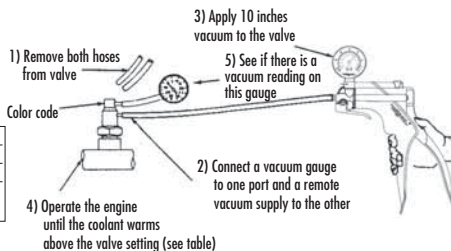

FIGURE 14: TESTING THE TWO-PORT PVS
1) Apply 10" Hg of vacuum to the bottom port of the valve with your vacuum pump and measure the results with a second vacuum gauge as shown in the accompanying illustration (FIGURE 14).